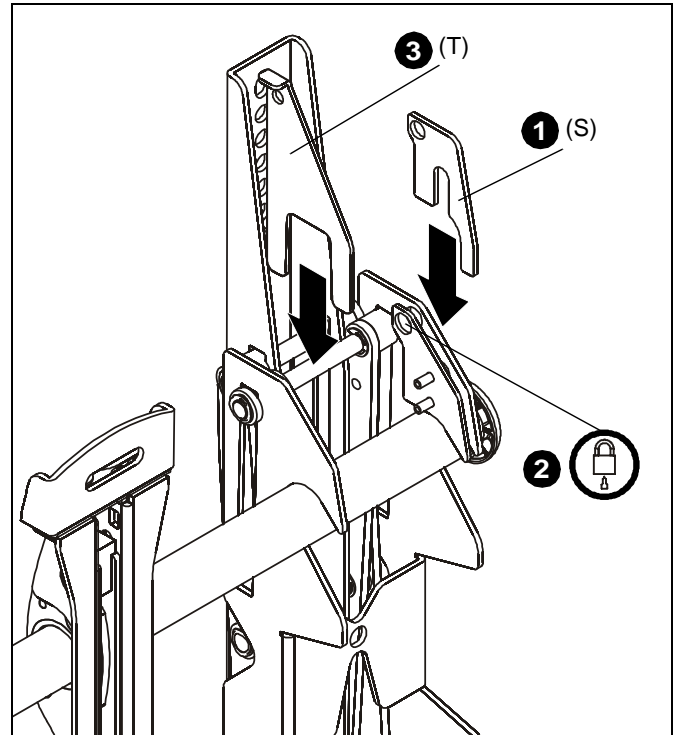

Figure 15
1. Add security bracket (S) to the mount. (See Figure 15)
2. Add padlock (not included) through holes on small security bracket (S) and mount. (See Figure 15)
3. Add hold-back bracket (T) to the mount to secure mount in recessed position. (See Figure 15)